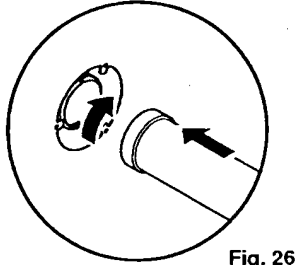

Fig. 26
3. Locate the swaged end of the flue duct over the bayonet fitting on the turret, taking care not to damage the 'O' ring. Lock the flue duct in place by pressing in and turning clockwise (Fig. 26).